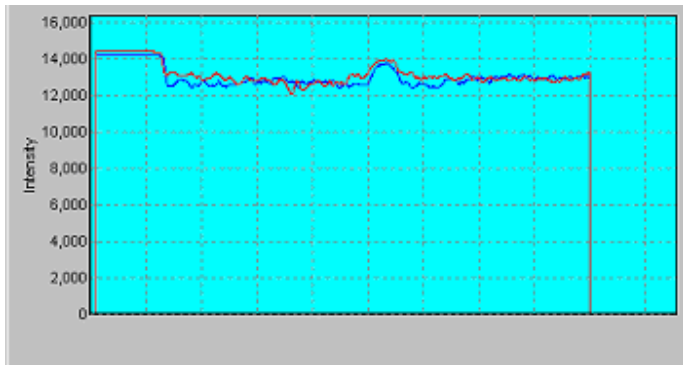

Figure 5-10: Probe too close to object
- The signal graph looks similar to the graph displayed in Figure 5-10. The signal is wider and starts before pixel 300.